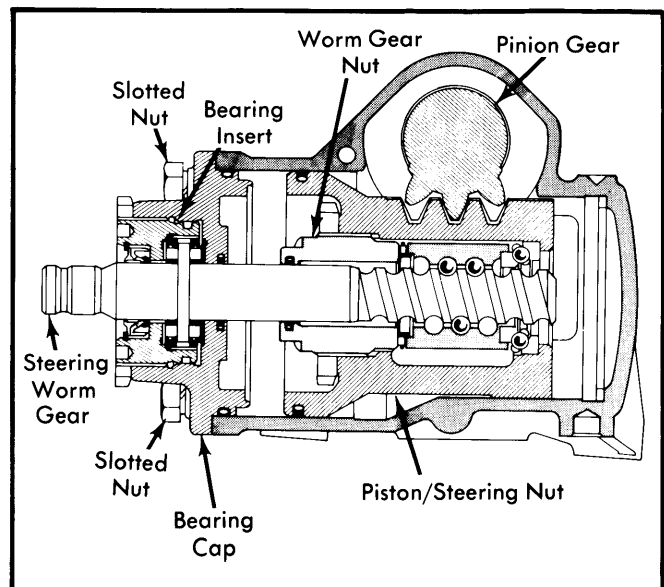

Fig. 8 Cross Sectional View of Steering Gear
11) Remove bearings from piston/steering nut. (See Fig. 8)
12) Remove lock ring, cover and control valve from steering gear case. (See Fig. 8).